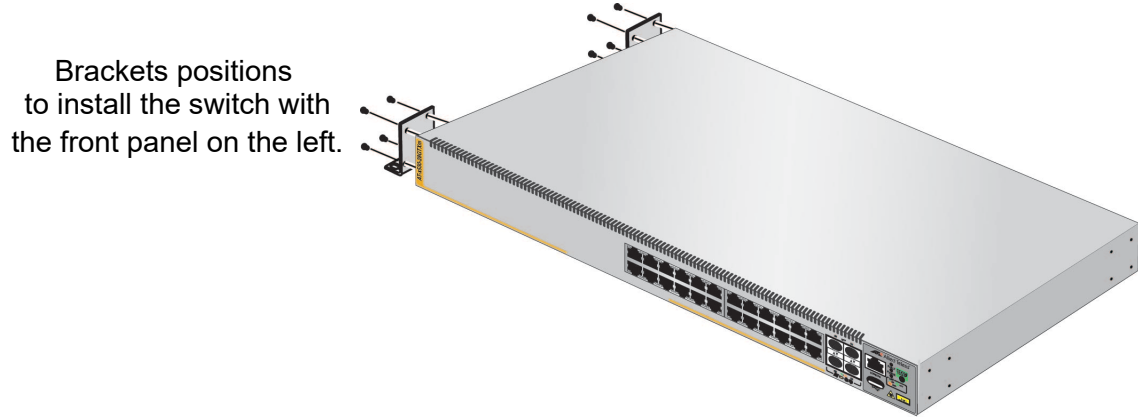
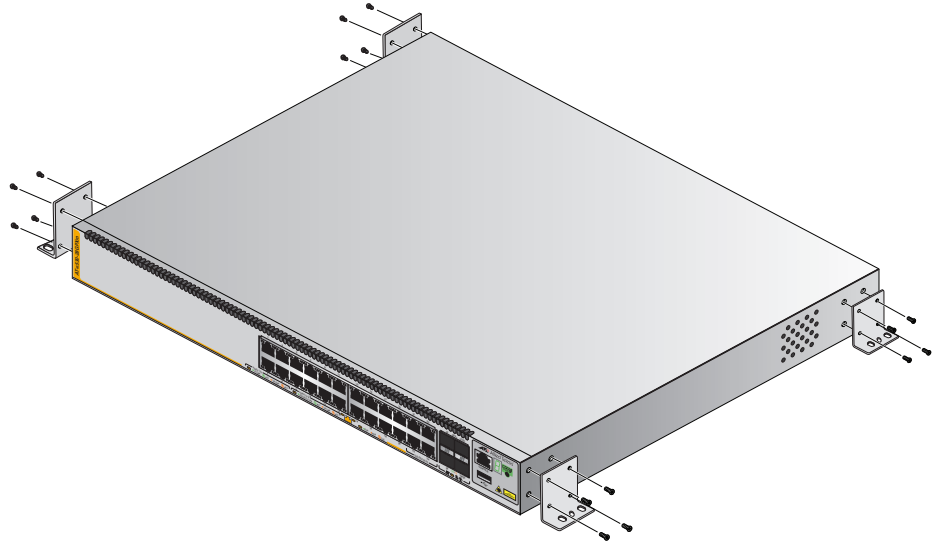

Figure 46. Installing Two Brackets on the x530-28GTXm or x530-28GSX Switch
Figure 47. Installing Four Brackets on the x530-10GHXm, x530-18GHXm, x530-28GPXm, x530-52GTXm or x530-52GPXm Switch
2. For the x530-28GTXm or x530-28GSX switch, install two wall/equipment rack brackets to the sides of the unit with the eight M4x6mm screws included with the switch. Refer to Figure 46 on page 123. For the x530-10GHXm, x530-18GHXm, x530-28GPXm, x530-52GPXm or x530-52GTXm switch, install four wall/equipment rack brackets to the sides of the unit with the 16 M4x6mm screws included with the switch. Refer to Figure 47 on page 124.
2. For the x530-28GTXm or x530-28GSX switch, install two wall/equipment rack brackets to the sides of the unit with the eight M4x6mm screws included with the switch. Refer to Figure 46 on page 123. For the x530-10GHXm, x530-18GHXm, x530-28GPXm, x530-52GTXm or x530-52GPXm switch, install four wall/equipment rack brackets to the sides of the unit with the 16 M4x6mm screws included with the switch. Refer to Figure 47 on page 124.